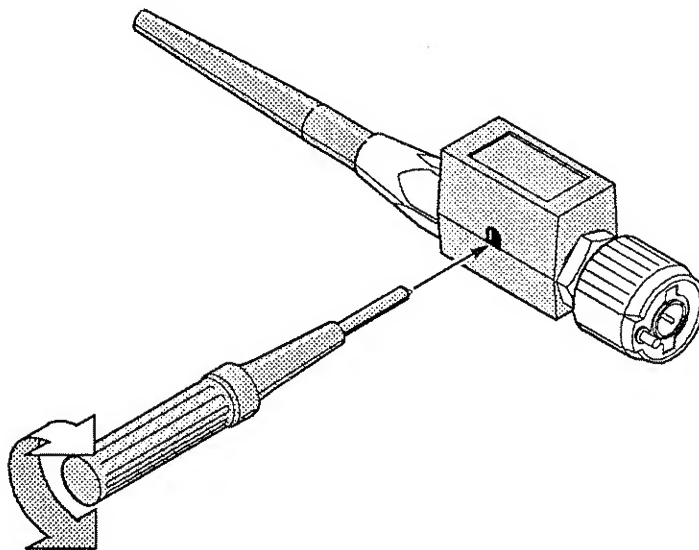

Figure 3-36: P6139A Probe Trimmer Adjustment
- ☐ **Step 3:** Adjust the trimmer in the probe until you see a perfectly flat top square wave on the display. Figure 3-36 shows where the adjustment trimmer is located.